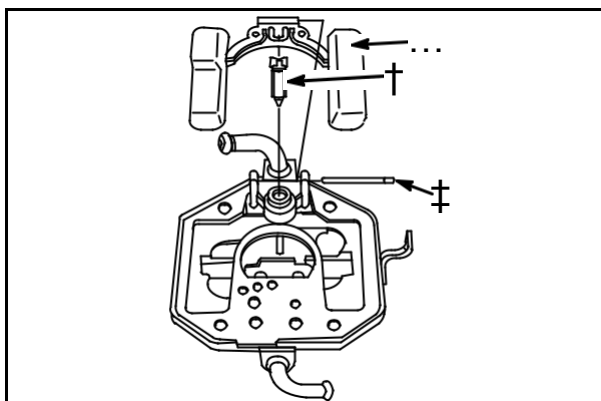

Fig. 99
Remove float (5) and fuel inlet needle (6), **Fig. 99**.